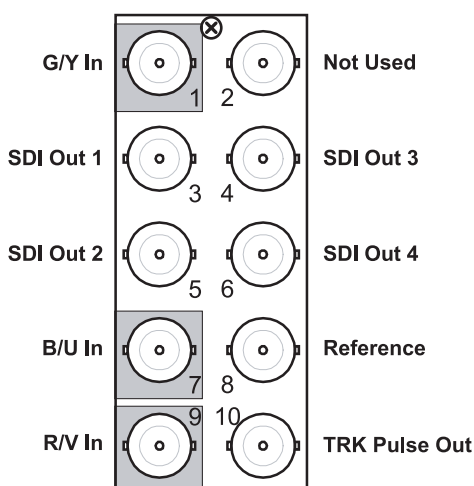

Figure 2.2 Cable Connections for the R1-8733 and R2-8733 Rear Modules
- **R1-8733** Rear Module — Each card occupies one slot and provides four SD-SDI outputs, one tracking pulse output, and a reference input. Cable your ADC-8733A according to **Figure 2.2**.
- **R2-8733** Full Rear Module — Each card occupies two slots and provides four SD-SDI outputs. Cable your ADC-8733A according to **Figure 2.2**.